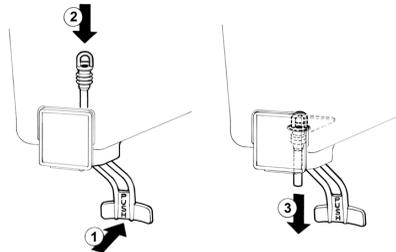

figure 5
- 2 **Pinch tube faucet:** push the dispensing handle (1) and insert the pinch tube into its vertical seat in the bowl bottom(2). Lightly pull the pinch tube end downwards til it is well
arranged (3) (see figure 5).